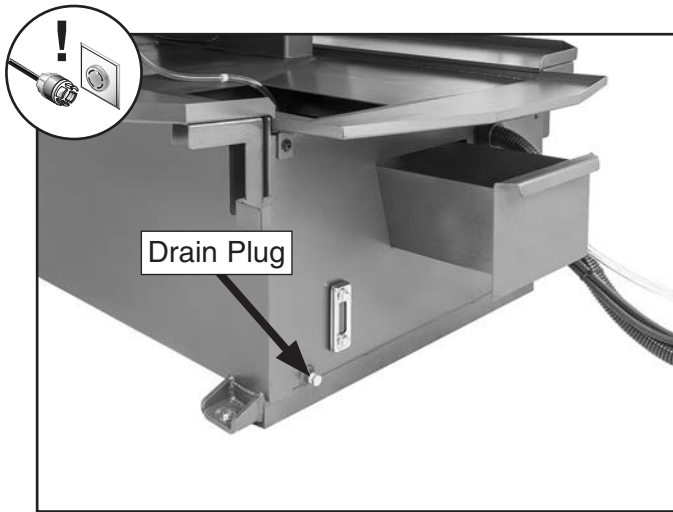

Figure 91. Drain plug location.
3. Remove drain plug, empty tank, and dispose of coolant per federal, state, and manufacturer requirements (see **Figure 91**).